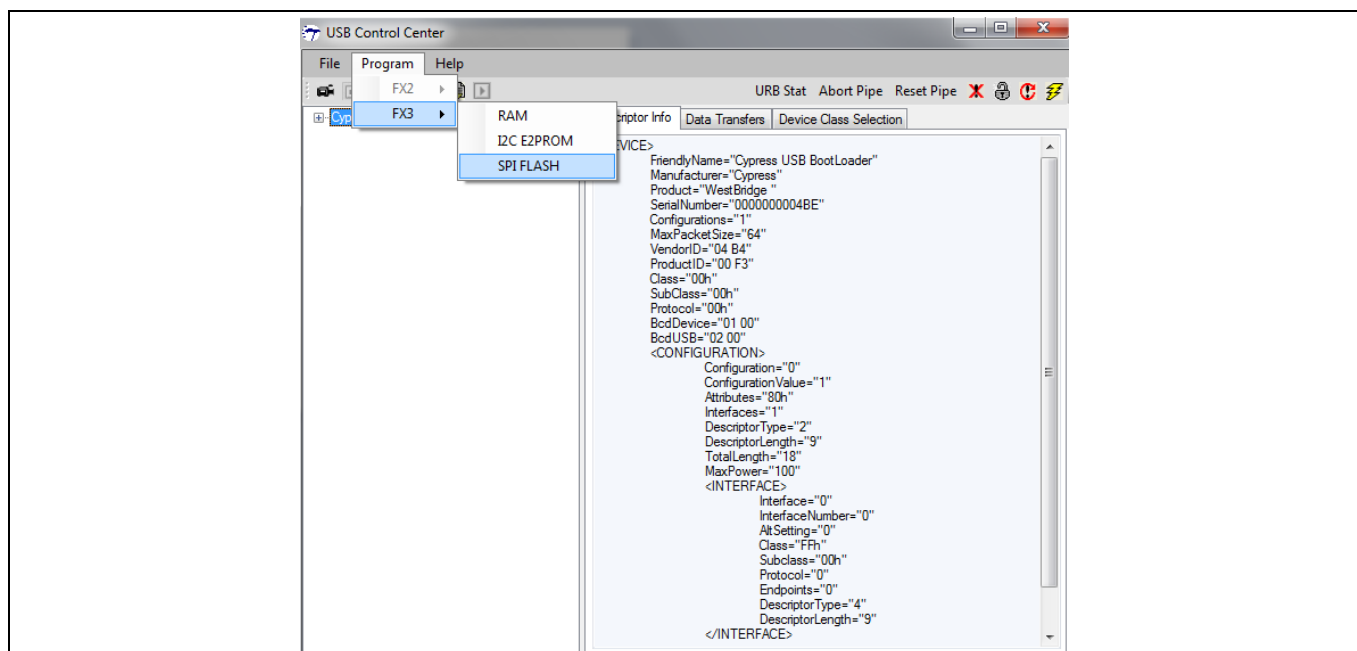
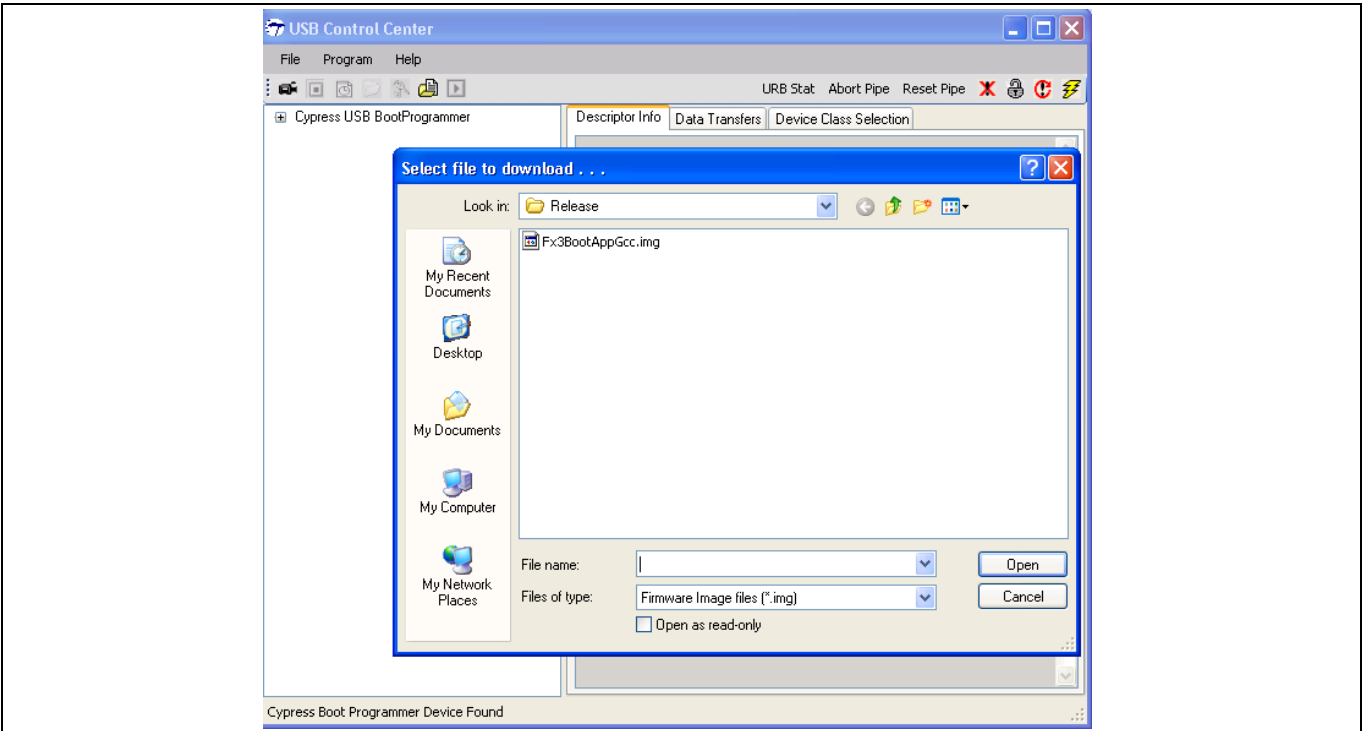

Figure 31 Choose Program > FX3 > SPI FLASH in Control Center
Figure 32 Double-click on the .img file to be programmed into SPI flash
4. In the Control Center, select the FX3 device and then choose **Program > FX3 > SPI FLASH**, as shown in Figure 31. Browse to the .img file to be programmed into the SPI flash, as shown in Figure 32.